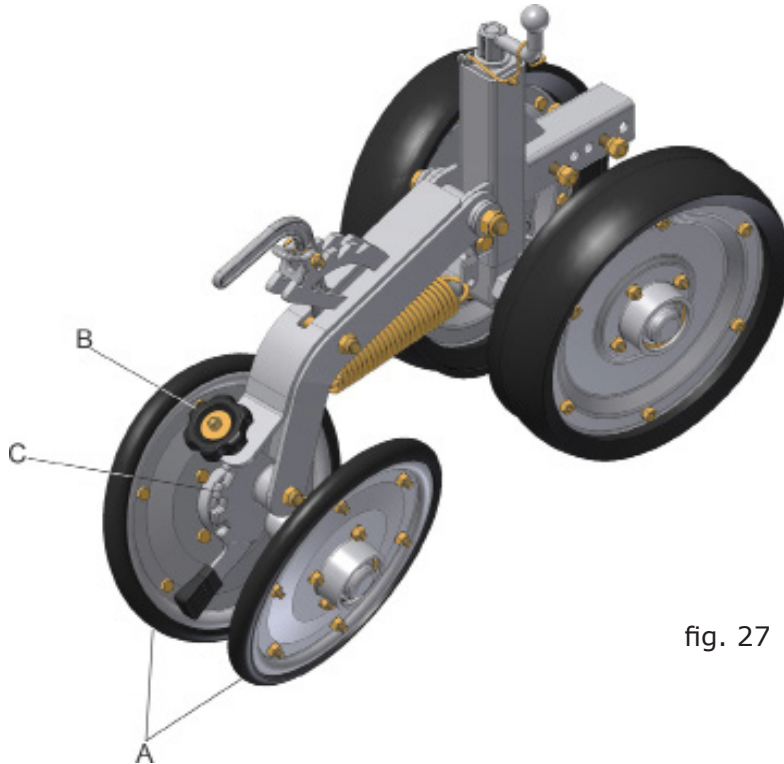

fig. 27
The press wheels in "V" shape (A) (fig. 27) carry through the pressure of the soil laterally in the seed and work with various options, as conditions of the soil, fodder, humidity, etc.